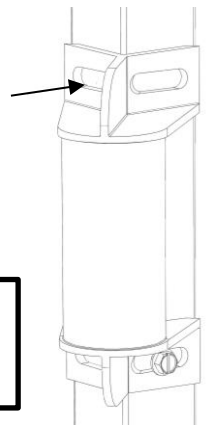

Fig. 1.2
- Place the top screw hole slot of the GTU (Fig. 1.2) either 9 inches below where the gas tank meets the frame, **OR** ½ an inch above the bottom of the lowest electrical outlet, **whichever location is lower on the generator frame.**
- With the GTU in the desired position, mark the generator frame centered inside one of the top screw hole slot on the GTU. Then mark the center of the screw hole slot diagonally across from the first. (Fig. 1.2)
- c. Using a 5/32" drill bit, drill one hole centered on each of the marks made on the generator frame. (Fig. 1.2)